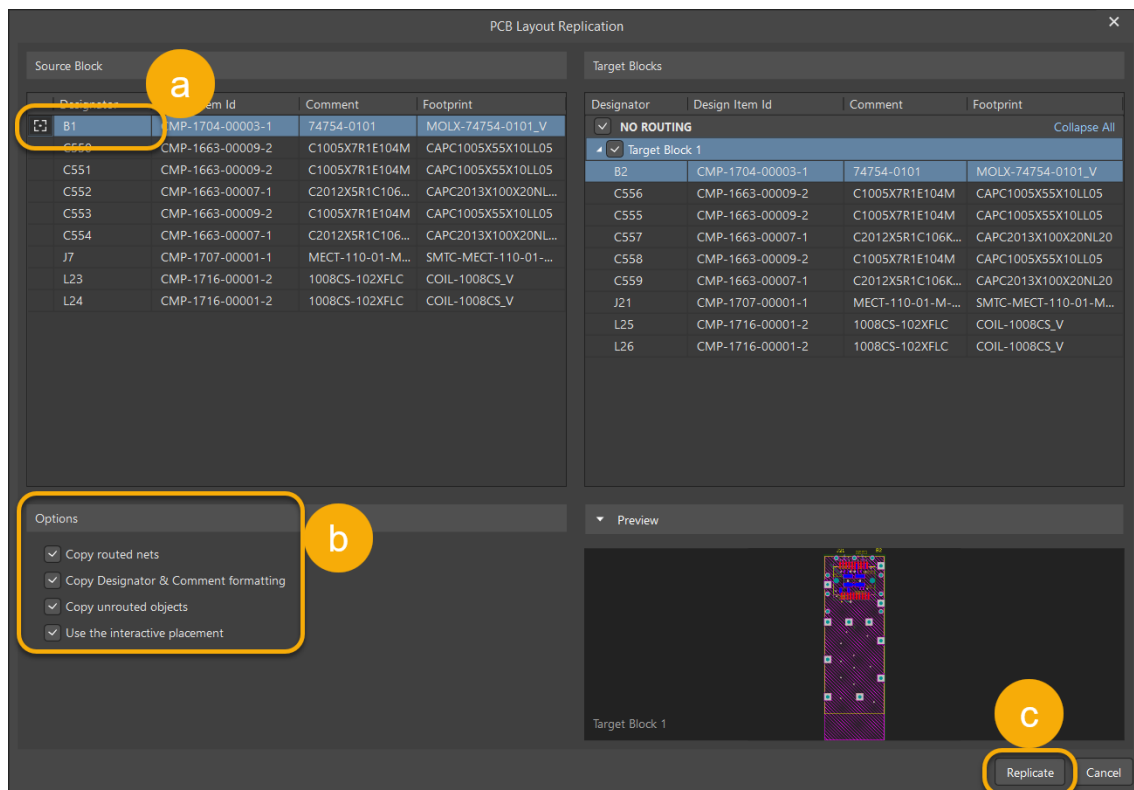

Figure 11. Replication for SFP-B
28. In the *PCB Layout Replication* dialog, Figure 11: